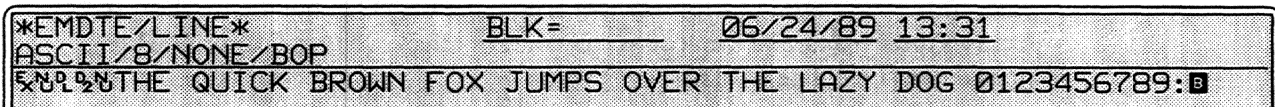

Figure 32-10 The INTERVIEW's TD monitor has detected a bad BCC transmitted by the unit's own TD driver.
- 2. *Bad BCC.* Press the softkey labeled BAD_BCC to append an errored block—check to your transmission. Assuming that Rcv Blk Chk: ON is the selection on the Line Setup menu, a BCC error will be indicated on the screen of the INTERVIEW by a  symbol. See Figure 32-10.